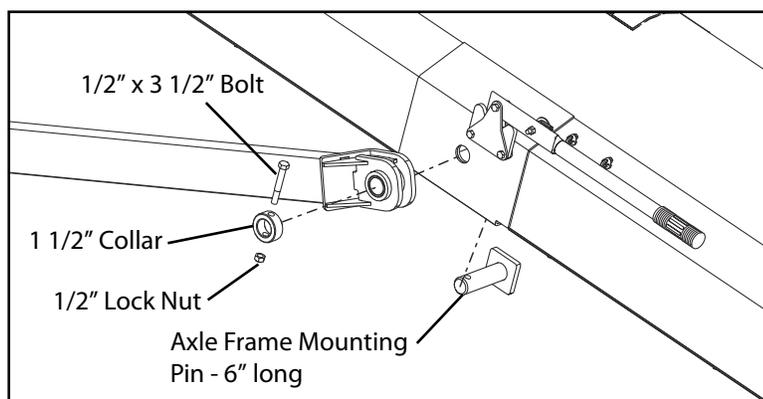

**FIG. 3-21. Installing the A-Frame Cross Brace**
39. Mount the A-Frame Cross Brace to the A-Frame Arms as shown in Fig 3-21 using fasteners shown. To ensure that the cross brace is square, measure from the top of each A-Frame Arm as well as the diagonal distance.